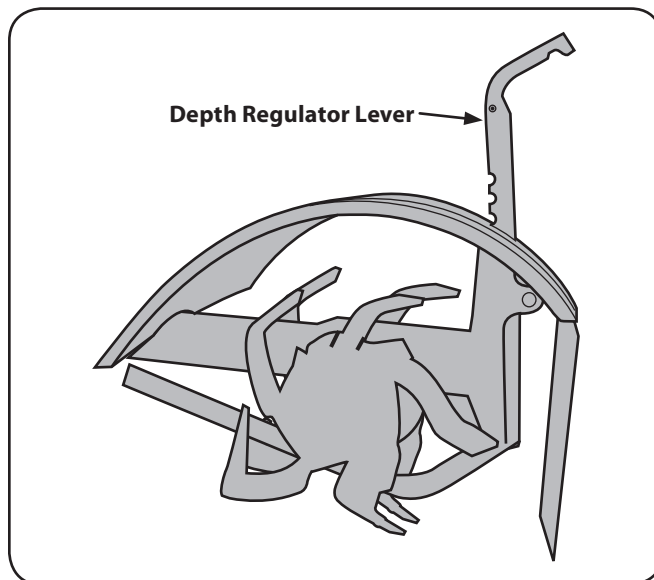

Figure 3-7
1. With the tiller on level ground, pull the Depth Regulator Lever back and then all the way up until the lowest notch in the lever is engaged. See Fig. 3-7.